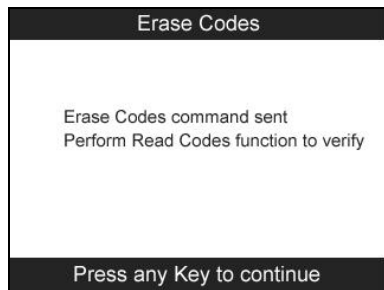

Figure 6.4
- 3) If the erase command is sent successfully, the screen will show as below (Figure 6.4). Press any button to continue. To make sure codes are erased clearly, run **Read Codes** again.